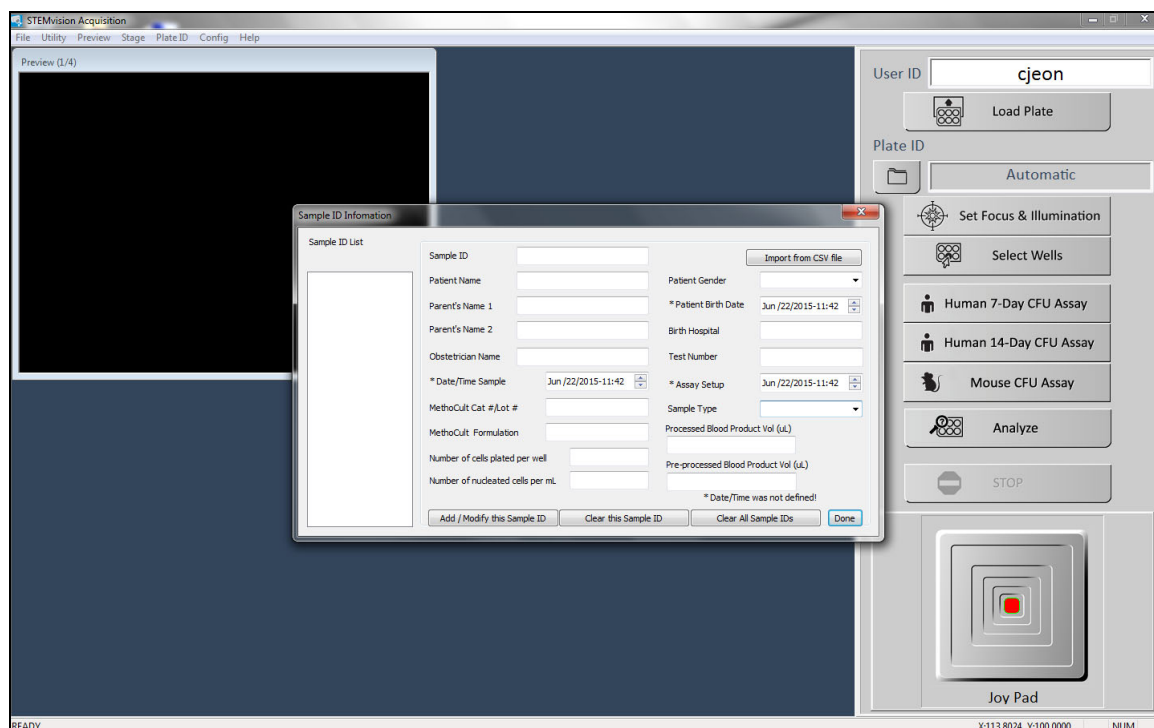

Figure 6. Sample ID Information Dialog Box
3. Click the “Import from CSV file” button in the new dialog box and browse to select the populated CSV file. The list of samples extracted from the CSV file will appear on the left side of the dialog box window under “Sample ID List” (Figure 6).
3. Click the “Add/Modify this Sample ID” button when finished populating the fields. The sample will appear on the left side of the dialog box under “Sample ID List” (Figure 6).
In addition to the CB-specific sample information entered in the “Sample ID Information” dialog box (Figure 6), customized sample information can be entered in up to 4 UDFs.
To select the root folder where the acquired images, data log files (section 7.3), and analysis files will be saved, click on the folder icon button in the Control Panel (see Figure 6) and select the root folder in the dialog box (Browse for Folder).